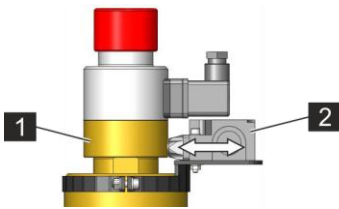

Fig. 102: Adjusting the switch
3. ➔ Pull the switch (Fig. 102/2) as far as possible from the housing of the electrical release device (Fig. 102/1).